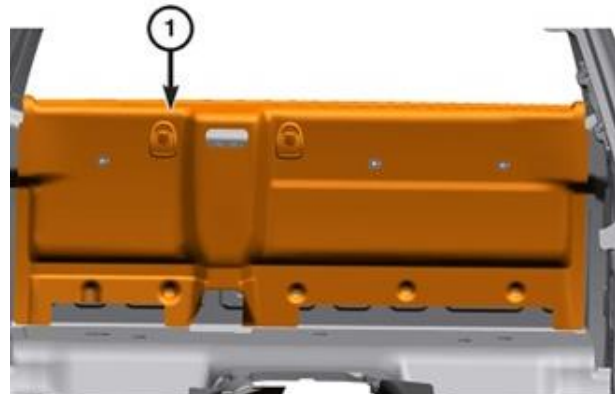

Figure 8 – Rear Cab Back Trim Panel
8. Using a trim stick or equivalent, release the seat belt trim ring from the back panel trim and slide the seat belt through the slit on bottom of the trim ring (Figure 8).
9. Remove the rear cab trim panel from vehicle (Figure 8).
17. Install the rear cab trim panel to the vehicle (Figure 8).